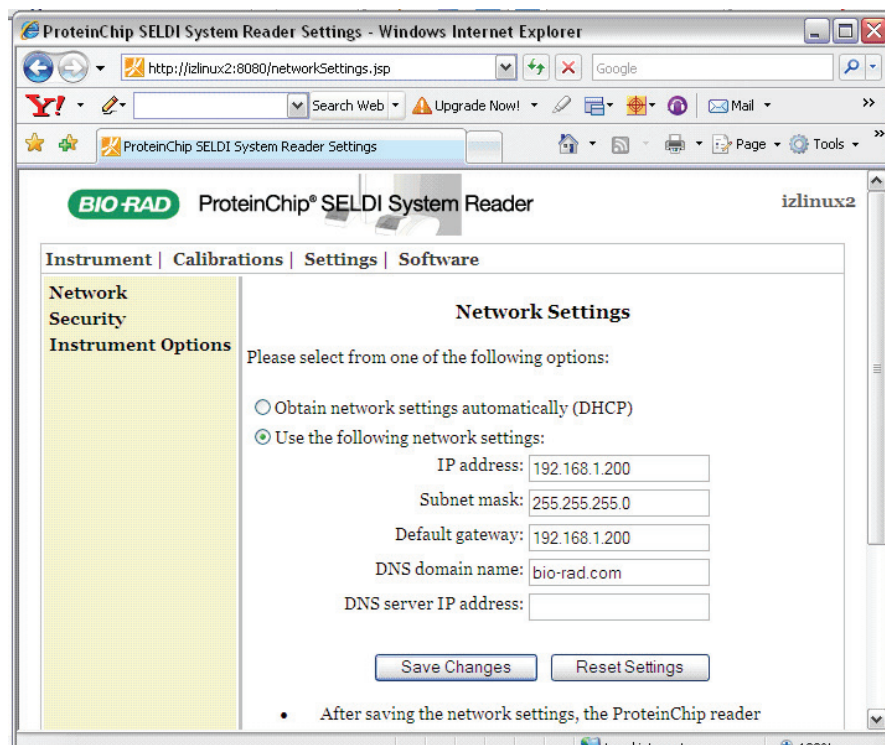

Fig. 37: The Network Settings web page.
4. Click on the **Settings** link. The **Network Settings** page will appear (Fig. 37).